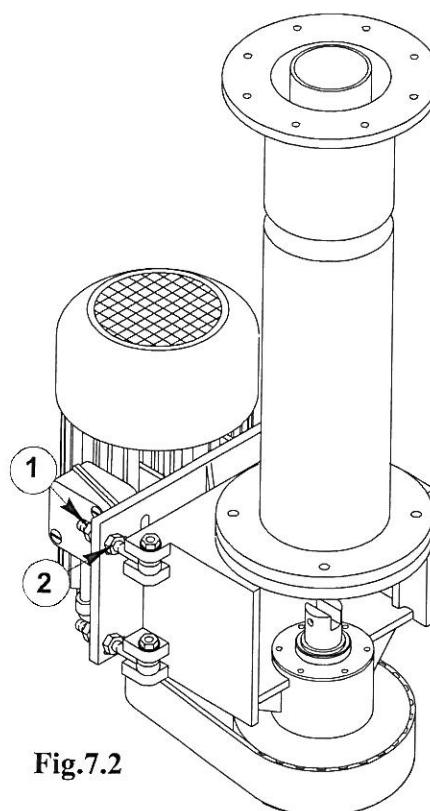

Fig.7.2
- Transmission belt (Fig. 7.2)**